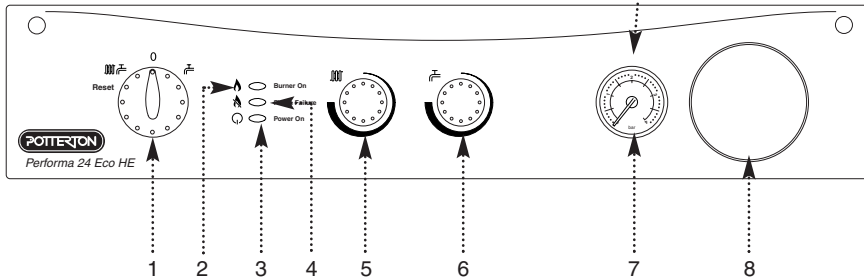

Fig. 4
3. In either position the green "power" neon (Q) will illuminate (Fig. 4).
7. The orange "burner" neon (A) will illuminate when the boiler is operating and the main burner is on (Fig. 4).